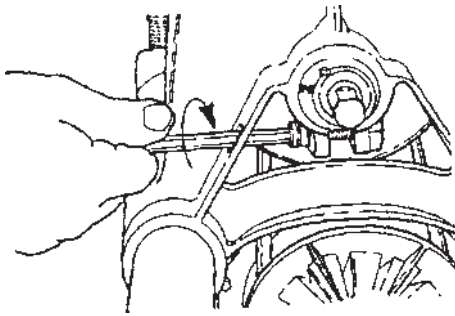
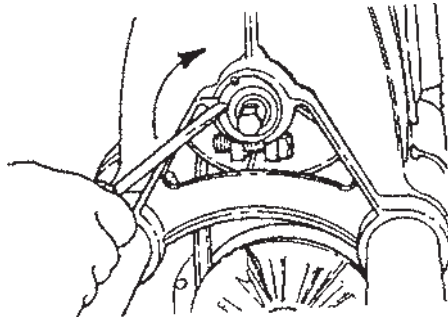

Figure D-9
Figure D-10
19. To adjust the tension, loosen the bolt that holds the idler shaft eccentric bushing in the headstock casting, as shown in Figure D-9. Insert a blade screwdriver in the slot of the eccentric bushing and turn the bushing clockwise in the casting until it stops, as seen in Figure D-10. With your finger, test the tension to see that you have taken the "slack" out of the belt. Retighten the bolt. **Do not overtighten.**